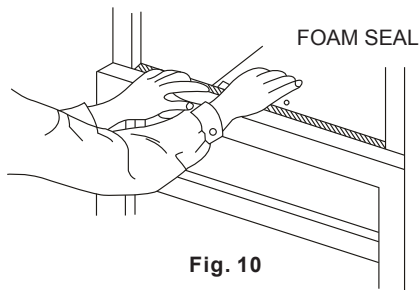

Fig. 10
D. Cut Window sash seal foam and insert it in the space between the upper and lower sashes (Fig. 10).